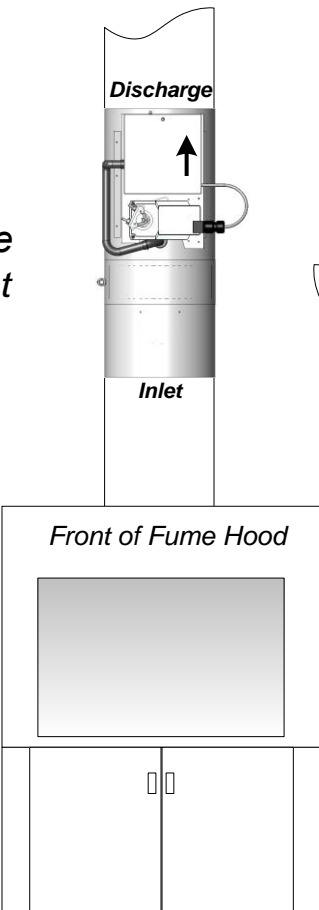

Figure 2
- 3. Locate the duct section which the valve is servicing and select a suitable mounting location for the valve. The recommended mounting position is vertical as shown in Figure 1. If vertical mounting is not possible and the valve is installed in a horizontal duct run, the valve shall be positioned with the transmitter on the top as shown in Figure 2.